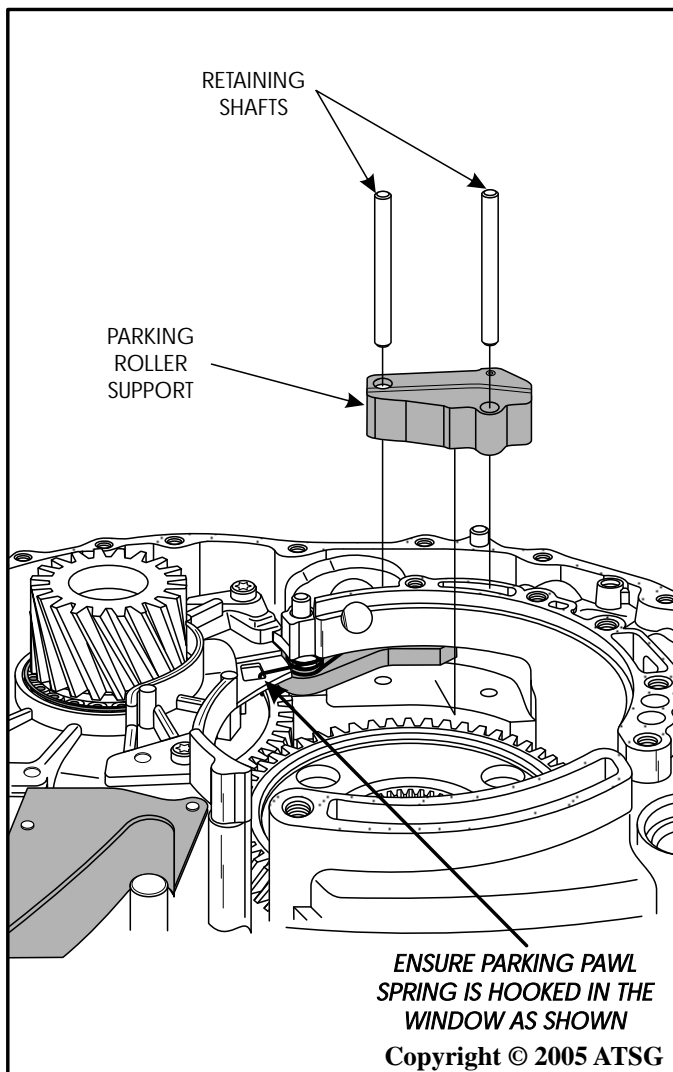

Figure 165
25. Hook the parking pawl return spring in the window of bearing support (See Figure 165).
26. Install the parking roller support, as shown in Figure 165, and install the retaining pins.
**Note: Check once again to ensure that park pawl return spring is hooked in the window, as shown in Figure 165.**